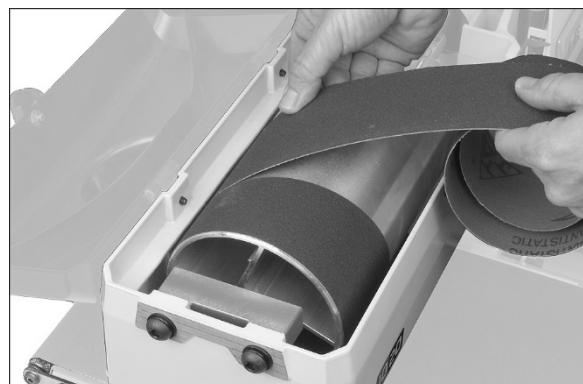

Figure 6-5
5. Continue to wrap abrasive in spiral fashion by rotating drum with one hand and guiding strip with the other. See Figure 6-5.